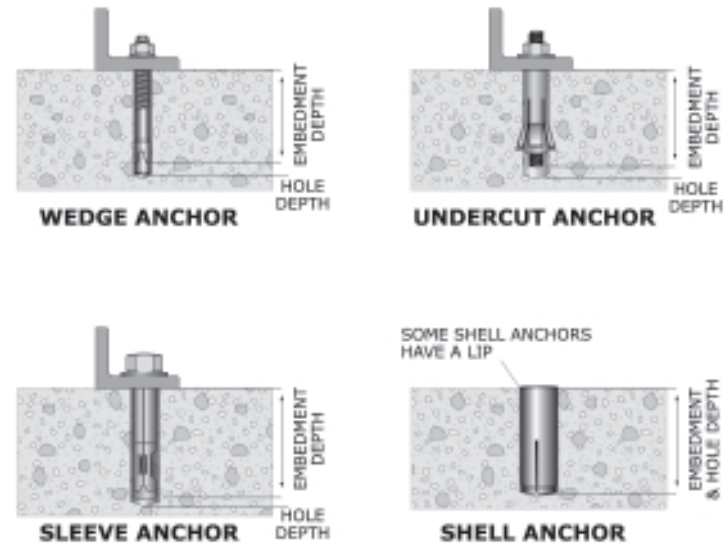

Figure 132: Embedment depth and hole depth of four anchor types.
**The required hole depth may be different from the embedment depth. See Figure 132 (page 99).**